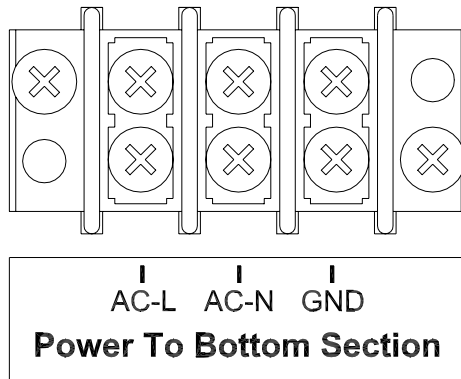

Figure 7 Power to Bottom Section Connections
3. Connect the cable to the terminal block labeled **Power to Bottom Section** according to figure 7.